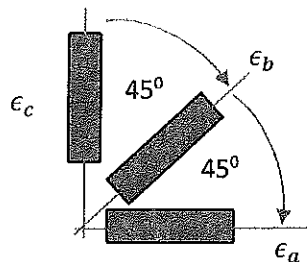

Figure Q5
- (iii) The stress state of a certain steel components was determined using a strain rosette as shown in Figure Q5. Due to the loadings, strain gauges gave strain values as $\epsilon_a = 30 \mu\epsilon$, $\epsilon_b = 50 \mu\epsilon$, $\epsilon_c = 90 \mu\epsilon$.